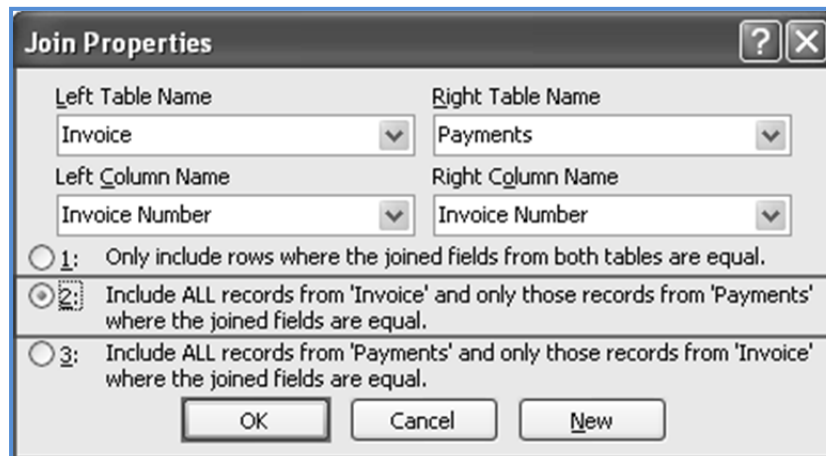

Fig. 1.3.8: Set the Join Properties to Left Outer Join
- Select the option **2: Include ALL records from 'Invoice' and only those records from 'Payments' where the joined fields are equal.**, and click **OK**. The **Join Properties** window appears as displayed in Fig. 1.3.8.